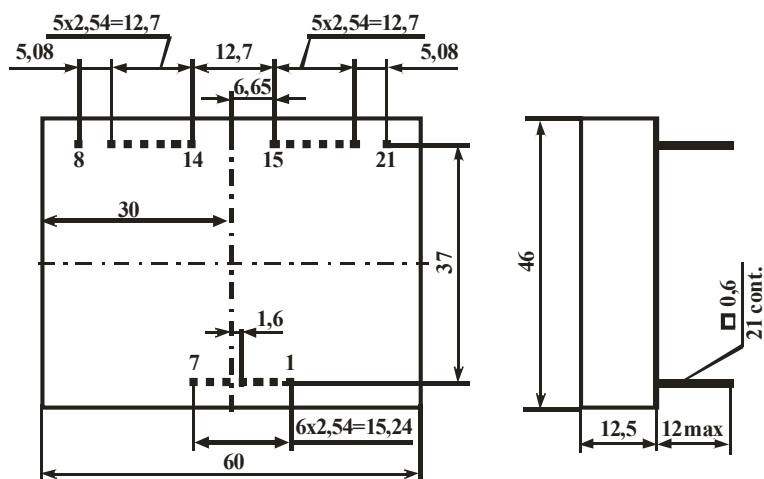
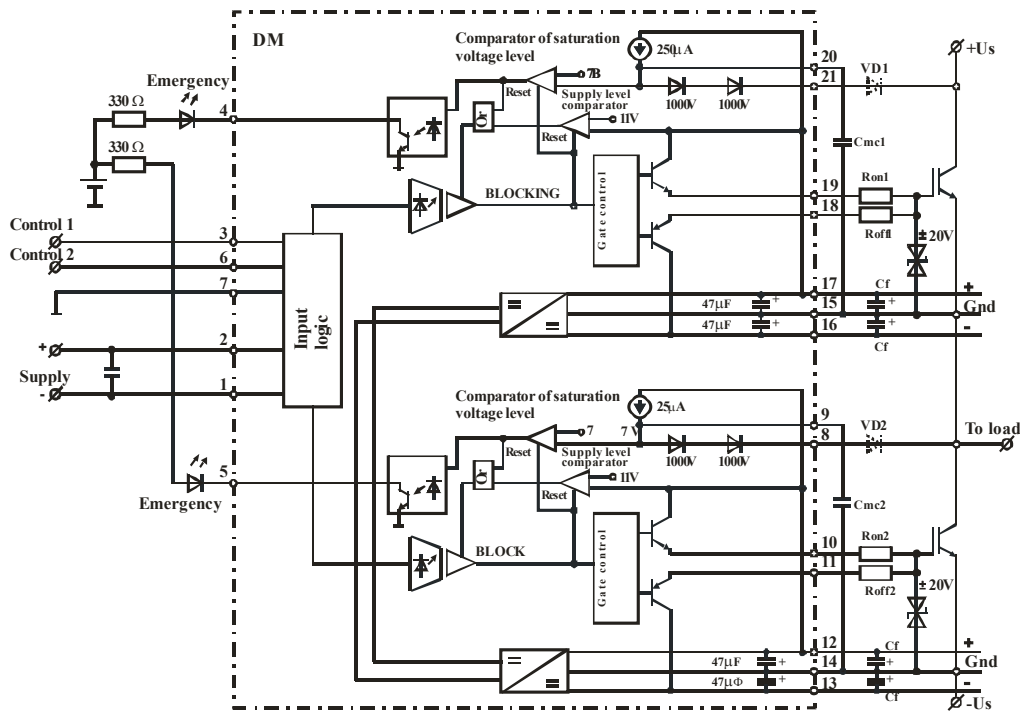

Figure 1 – Overall driver drawing
Figure 2– Functional circuit and driver turn-on circuit
3.1 Overall drawing is shown at Figure 1, functional circuit and driver turn-on circuit are represented at Figure 2.
MC1, MC2 – collector connection outputs (drain) of controlled transistor. Outputs are intended for voltage fall control (saturation protection) on the transistor. Meanwhile maximum protection operation threshold value is equal to 5.8 V (if the external elements are not set). Protection operation threshold is regulated by external elements setup (Zener diodes and diodes); voltage fall on Zener diodes and diodes at current 250 μ A is deducted from the maximum voltage (5.8 V). For instance, if Zener diode with rated Zener voltage 3.3 V and two diodes with voltage fall 0.7 V at current 250 μ A are set sequentially (ref. to recommended connection circuit at Figure 2), then protection operation threshold will be equal to $5.8 - 3.3 - 2 \times 0.7 = 1.1$ V.
OUToff1, OUToff2, OUTon1, OUTon2 – outputs meant for connection of controlled transistors gates. The recommended connection circuit is shown at Figure 2. Voltage limiter should be set with rated breakdown voltage not less than 16 V and not more than maximum-permissible gate voltage. It is recommended the limiter with rated breakdown voltage 18 V. It is allowed to install Zener diodes with corresponding rated Zener breakdown. If the controlled transistor is installed at a remote distance from the driver, then the limiter should be installed directly to transistor.